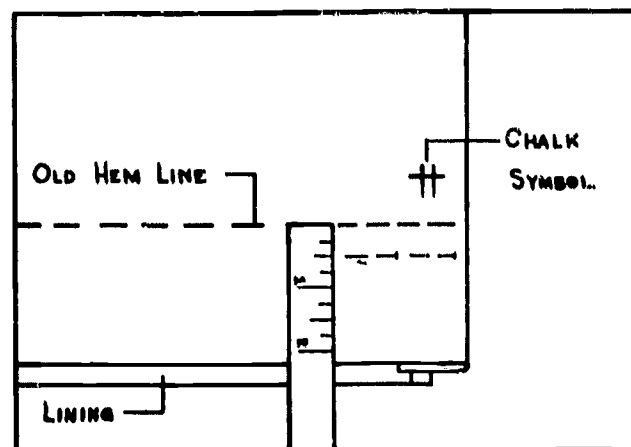

Figure 18.
6. If the coat is to be lengthened, measure the amount to be lengthened down from the old hem crease line. Place pins (through coat fabric only) around the coat to indicate new hemline (see Figure 18).